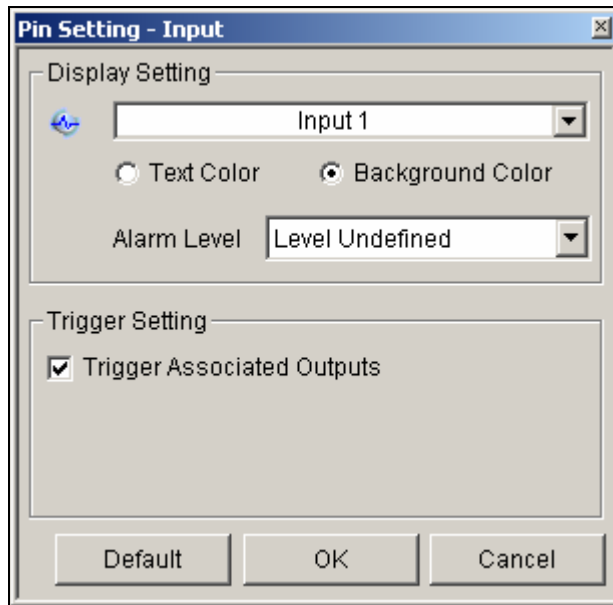

Figure 6-21
- **Use User-defined Text:** Allows you to modify the text of Alarm Level (Figure 6-21).